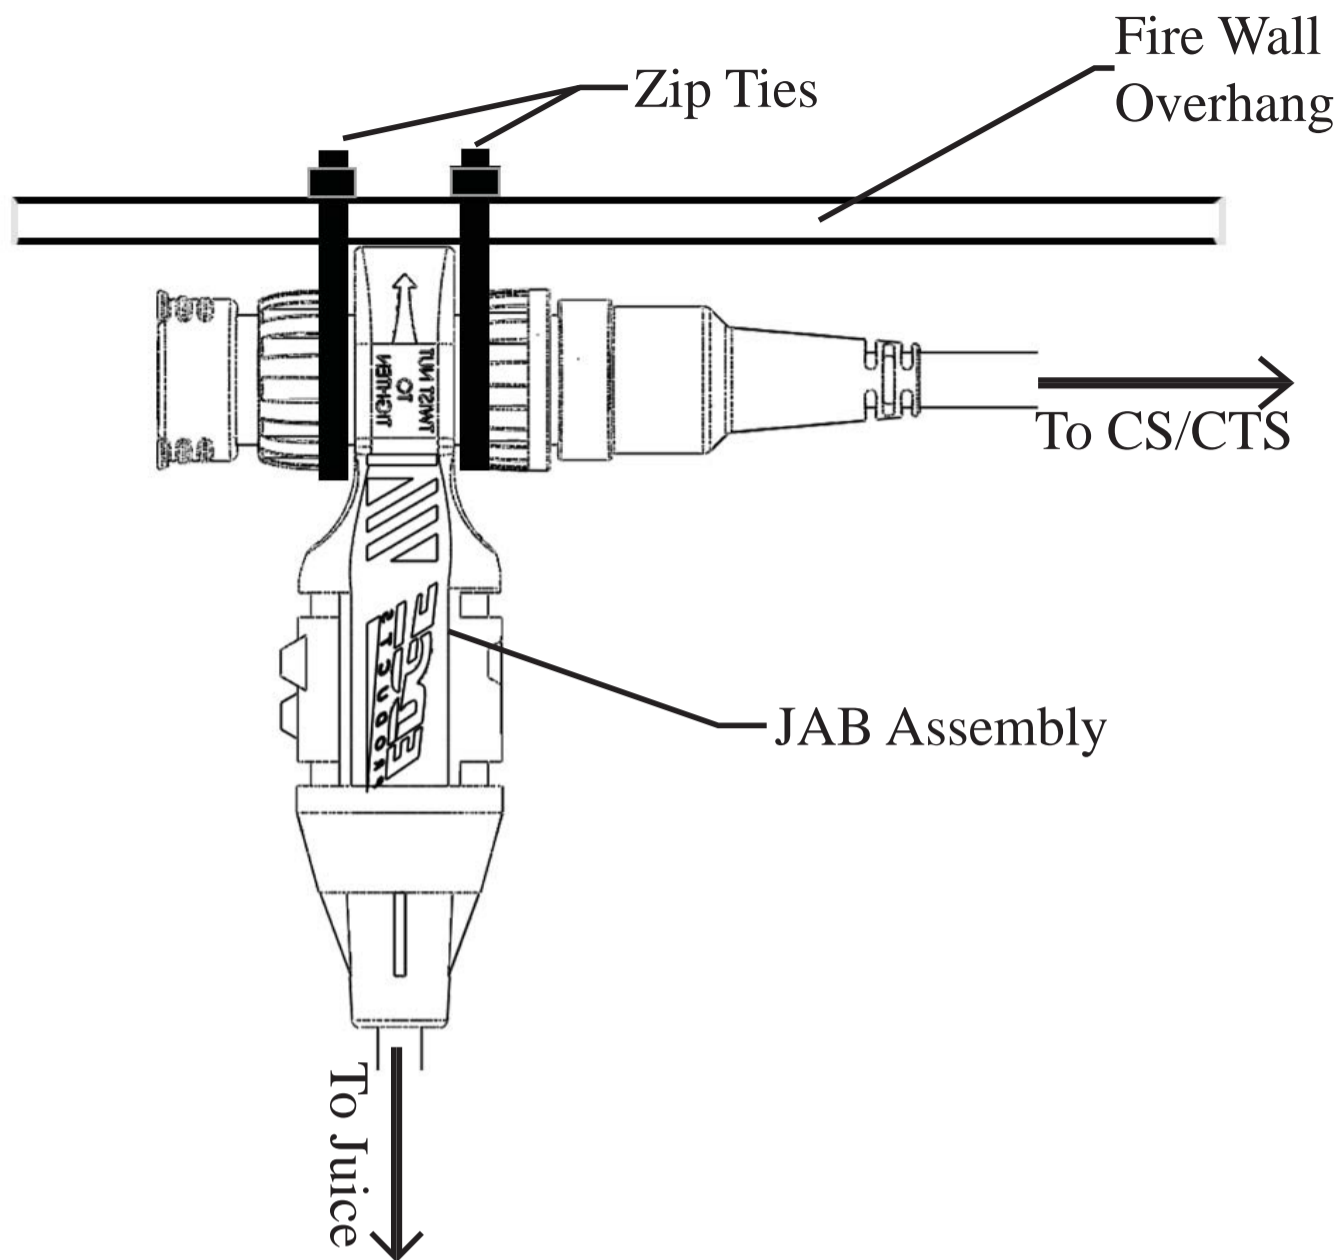

Figure 5 - Securing JAB
7. Using the supplied zip ties, fasten the JAB connectors underneath the overhang which runs across the top of the fire wall. (Figure 5 - On next page)